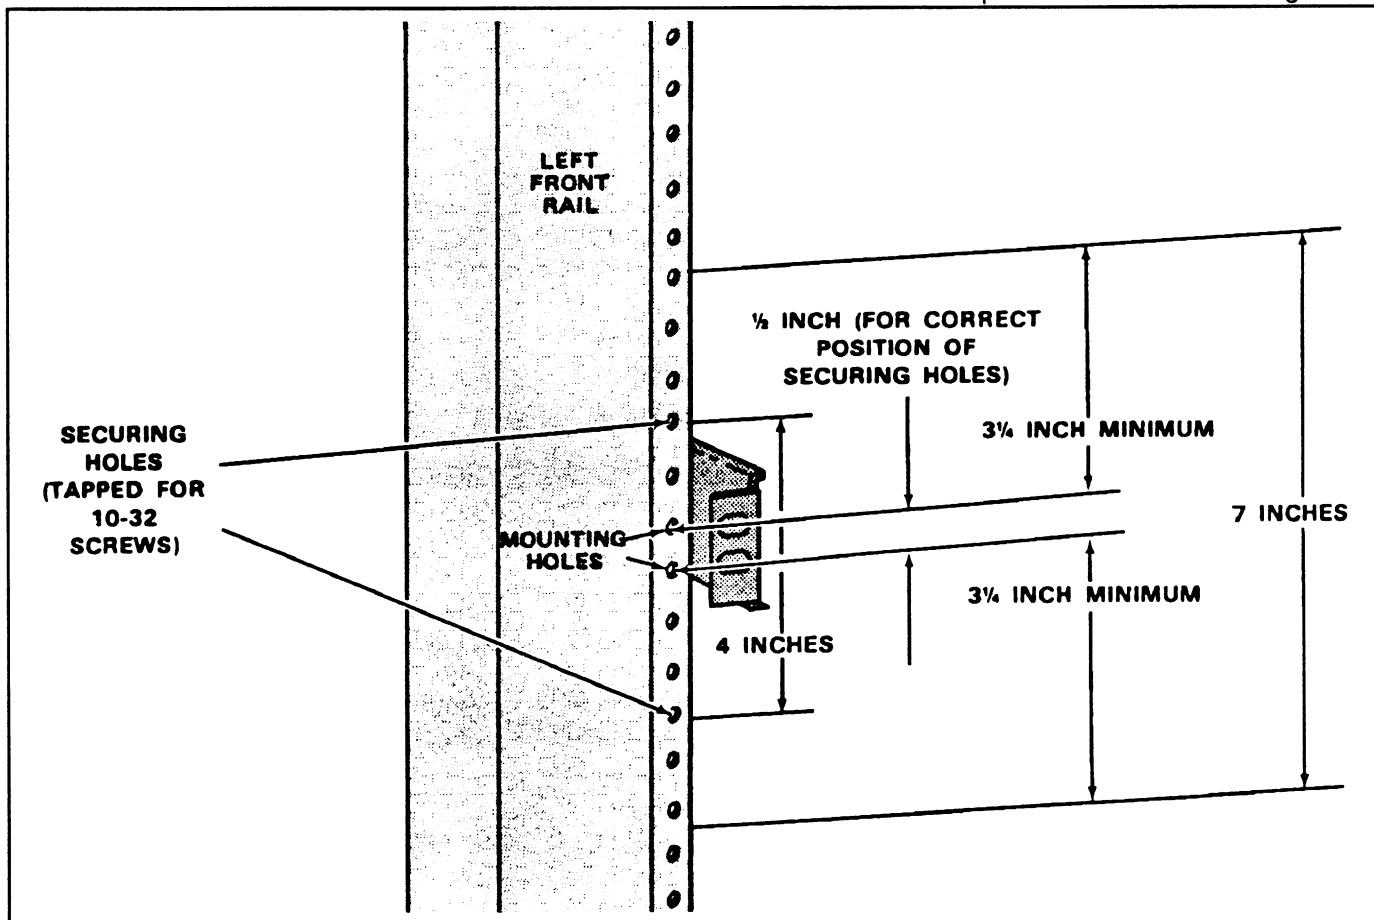

Fig. 11-2. Locating mounting holes for the stationary sections
1. Select appropriate front-rail mounting holes on the equipment rack cabinet, verifying the 7-inch (178 mm) vertical clearance requirements as shown in Fig. 11-2.